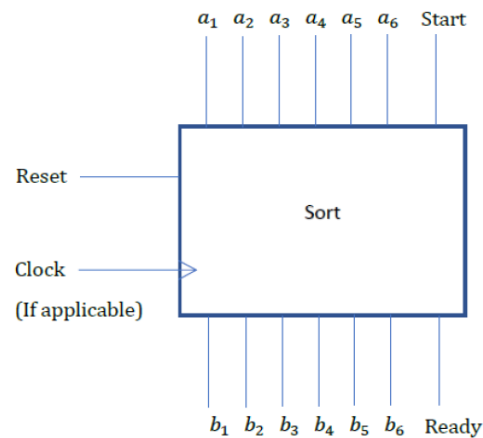

Figure 2: Pin diagram
Selection sort algorithm is implemented to sort six (6) 16bit integers, such as $a_0, a_1, a_2, a_3, a_4, a_5$ and produce the output, $b_0, b_1, b_2, b_3, b_4, b_5$ which is sorted in ascending order. The pin diagram for the module is as figure 2. Once start pin become logic-1 the operation begins and once the sorting is completed, ready pin become logic-1.